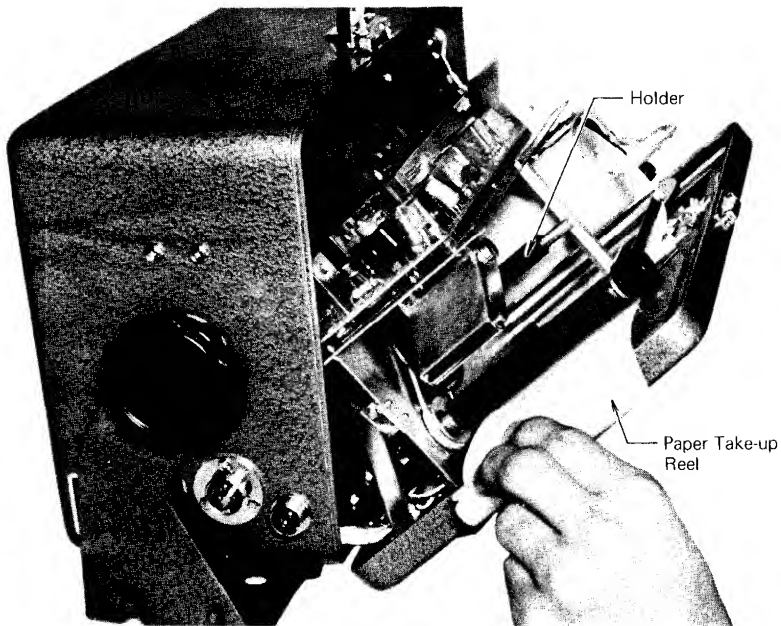

Fig. 4-5
- 5) Set the new paper roll over the holder and pull out the paper as shown in Fig. 4-5.